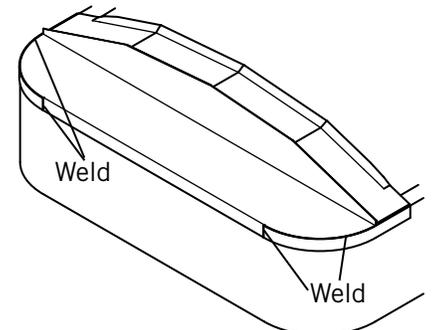

Figure 10-4
- 5) **Figure 10-4.** Weld both pieces to the front cap.